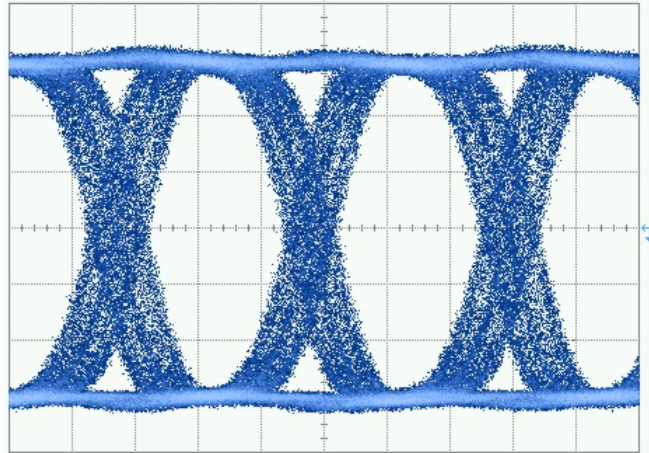

Figure 42. Jittered eye pattern example
7. Press the softkey corresponding to the **SEL** label to accept the entry and return to the **Data Output Menu**. A jittered eye pattern should now be displayed on the high speed sampling scope similar to the one shown in **Figure 42**.